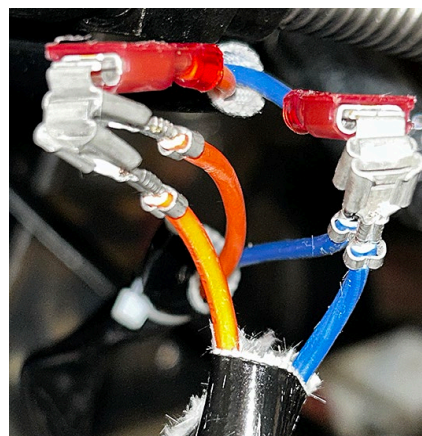

Figure 9
15. Remove the blue and orange wires from the switch. Attach the pigtail from the new harness from the dispose assembly to pigtail on the old harnesses (blue wires to blue wires and orange wires to orange wires) (see Figure 9).